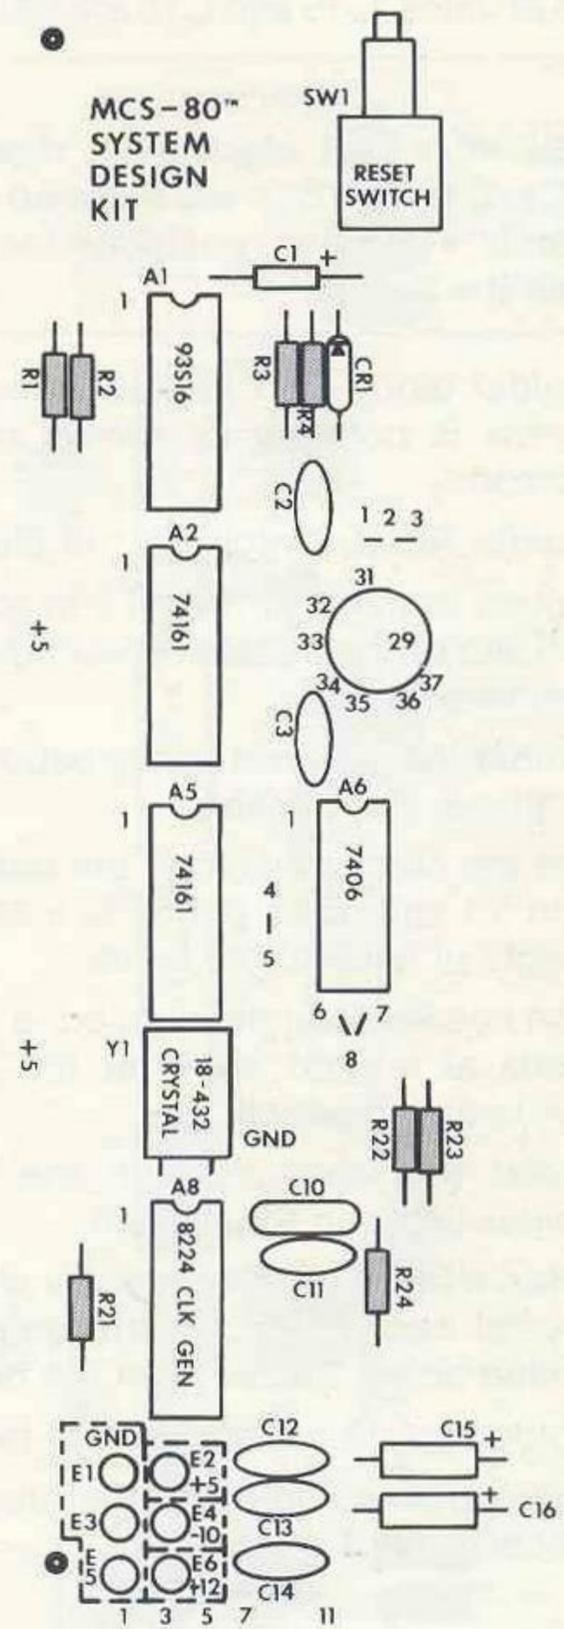

Figure 2-3. Construction Figure #1.
- ☑ Referring to Table 2-4, solder resistors R1-R4 and R21-R24 in place. Figure 2-3 shows this area of the board.